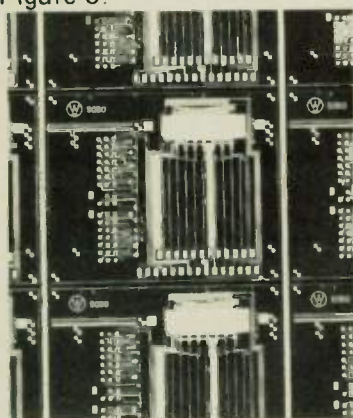

Fig. 6 Photodiode Array with 140 active elements on 12 μm centers achieves large dynamic range through area extension in the other direction.
- **Photodiode Array Development** — The salient features of the detector array developed under separate contract support from NRL are listed in Table 2. The element spacing of 12 μm with no lost area is an improvement over available arrays which have pitches of 15 to 25 μm . The access time of 2 μsec to all elements represents an enormous advance over other arrays. The dynamic range also represents a major advance in the state-of-the-art. The array is shown in Figure 6.